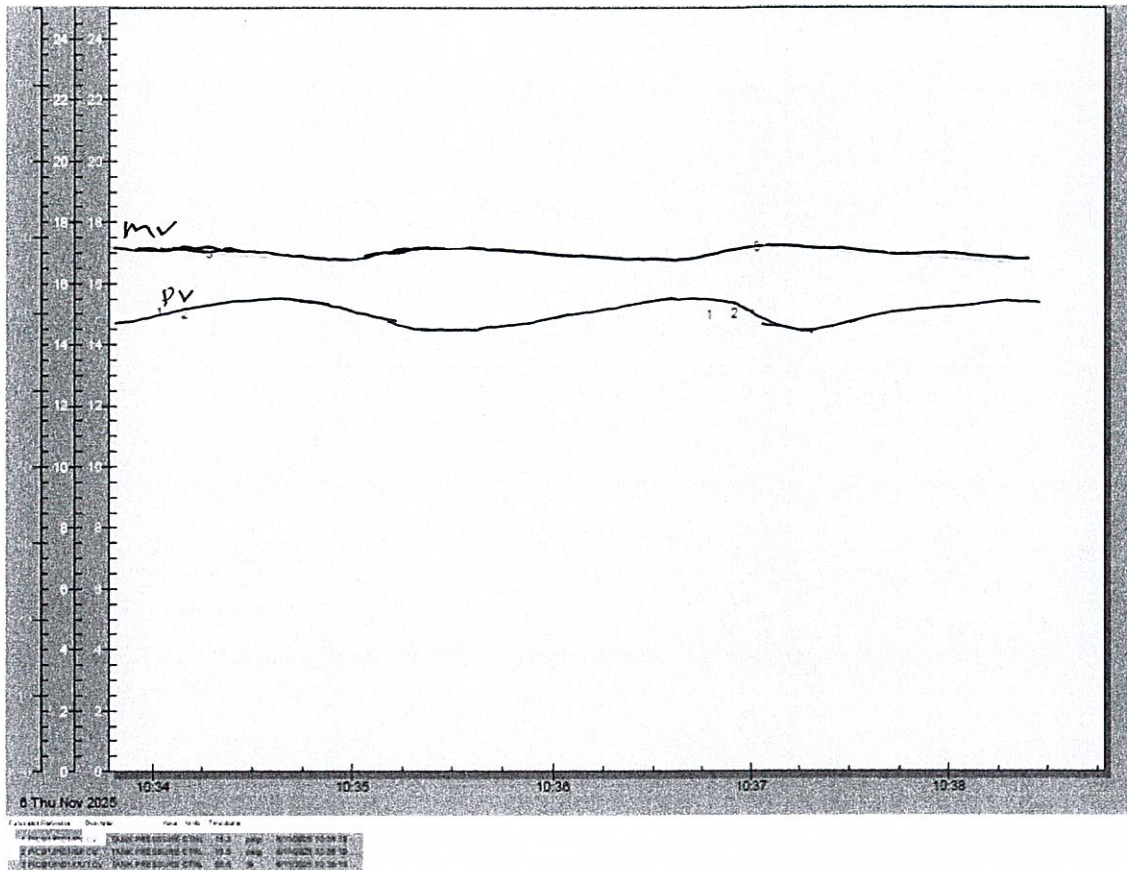

Figure 1: Response Of Trial 1 Double Capacity Process
- i. By referring to Figure 1, give your comment in brief of the given result. (3 Marks)
- iii. While performing the experiment, you are required to use Bigger Proportional Band (PB) and also Bigger Integral Time (TI). Briefly discuss the possible Response that you will obtain. (4 Marks)
- iv. Based from Figure 1, identify the classification of the Characteristic Of The Process. (1 Mark)
Refer Below - Figure1 : Response Of Trial 1 Double Capacity Process .